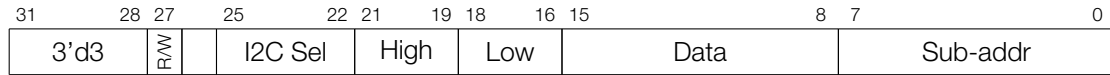

Figure 145: Instruction Type – I2C
**Operand Description** - see Figure 145